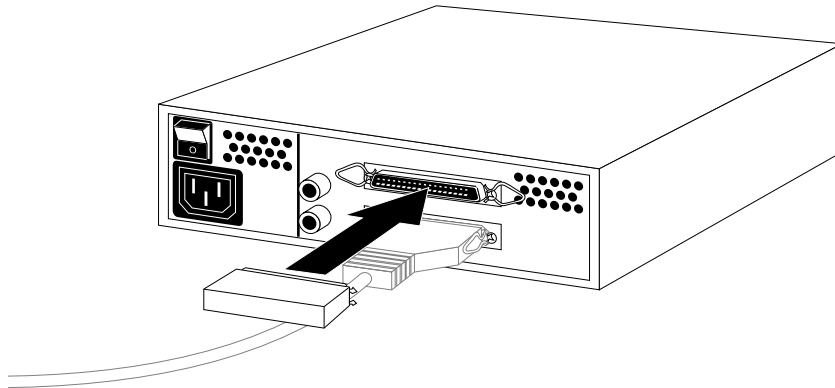

Figure 6-10 Attaching a Terminator to an External SCSI Device
5. Gently place the terminator you received with the device onto the open SCSI connector on the back of the last device on the daisy-chain, as shown in Figure 6-10, and secure the clips on each side of the terminator.